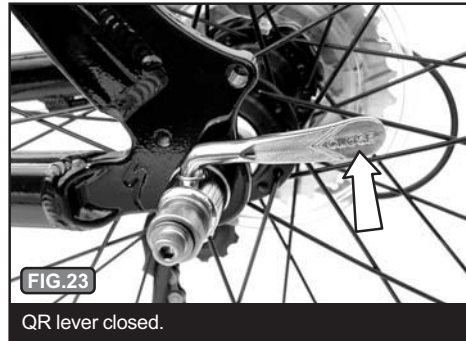

FIG. 23
F) Move the QR lever until "CLOSE" is visible on the lever, Fig. 23, and it is parallel to the frame.